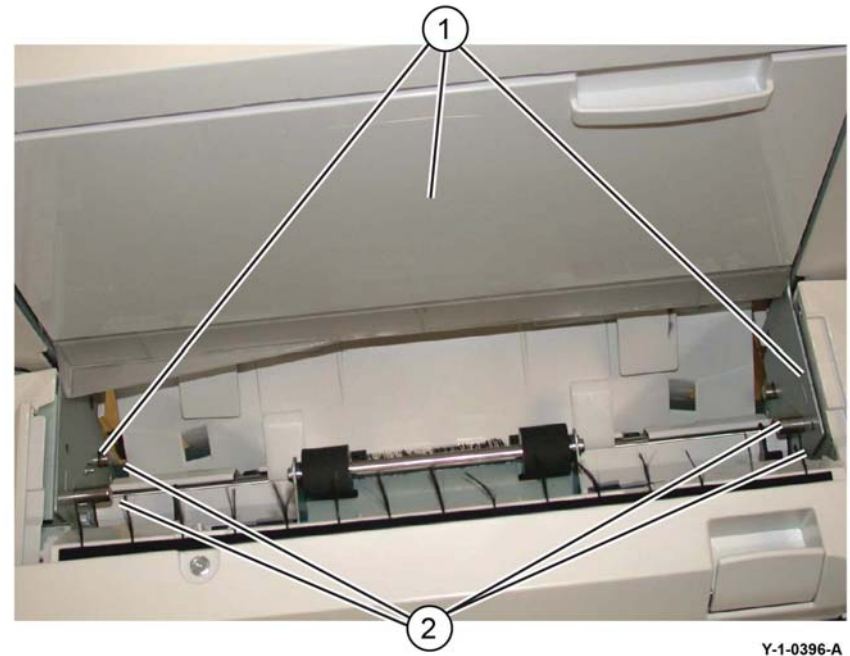

Figure 4 Booklet maker assembly removal
4. Lift the booklet maker assembly (1) off the four locating pins (4), then remove, **Figure 4**.